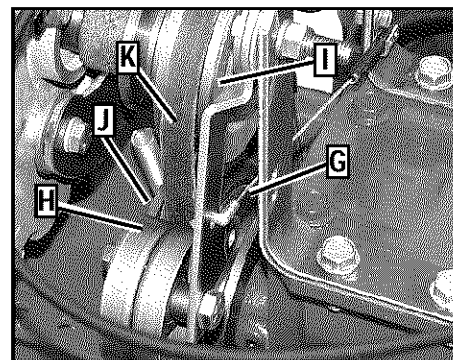

Figure 5-15: Forward clutch control assembly.
The forward clutch belt (K, Figure 5-15) engages the engine pulley (I) and the transmission pulley (J) when either Forward Clutch Control Lever is pulled up against the handlebar. Pulling the lever(s) tightens the forward clutch cable (G) which causes the forward clutch idler pulley (H) to apply tension to the forward clutch belt. This causes the belt to transfer power from the engine pulley to the transmission pulley for Forward movement.